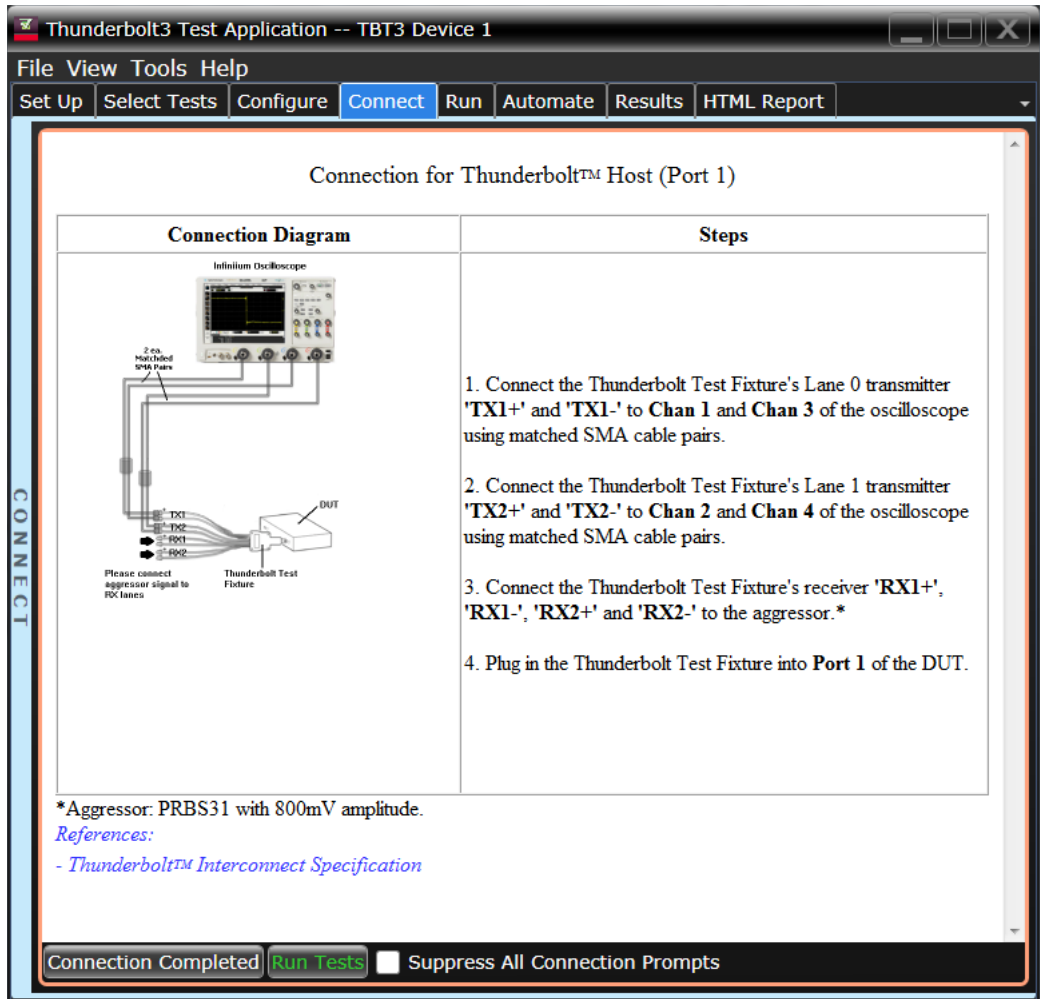

Figure 11 Connection Diagram and Instructions for a 2-Lane test set up on a 4-Ch Oscilloscope
- Under the **Connect** tab, the Thunderbolt 3 Test Application displays a Connection Diagram along with a list of instructions. **Figure 11** and **Figure 12** show the connection diagrams for a 2-Lane set up and for a 1-Lane set up, respectively, on a 4-Channel Oscilloscope, whereas **Figure 13** shows the connection diagram for the “Lane 0 Only” set up on a 2-Channel Oscilloscope. If you have already set up a physical connection, you may verify else connect the DUT with the Oscilloscope as shown under this tab. Note that during some test runs, the application may prompt you for a change in physical connection/setup.